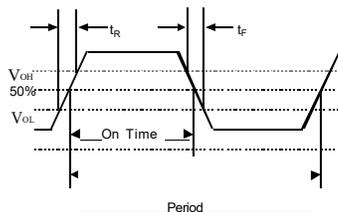
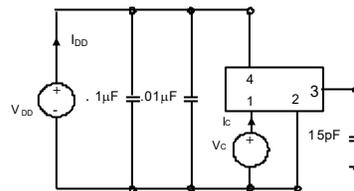

Figure 7. Output Waveform
Figure 8. Typical Output Test Conditions (25 ± 5°C)
2. Figure 7 defines these parameters. Figure 8 illustrates the operating conditions under which these parameters are tested and specified.